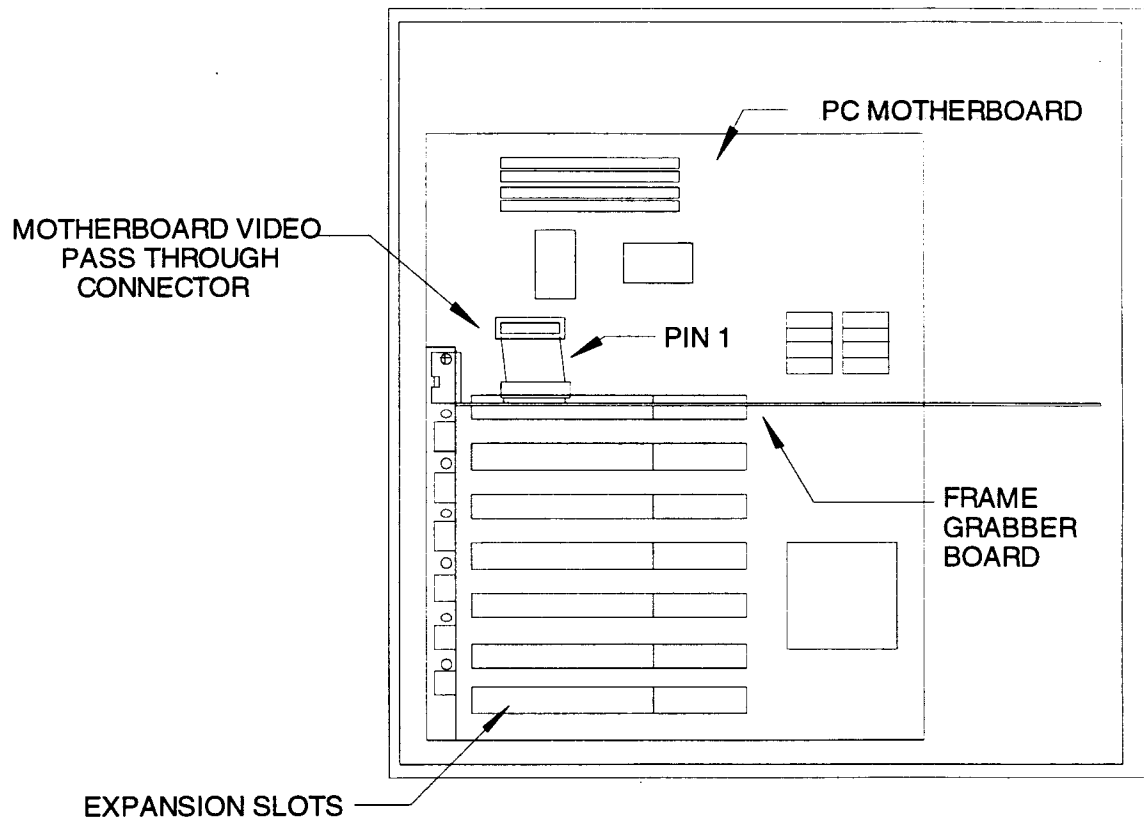

Figure 5. Installing the Frame Grabber Board Into a Computer with Built-In Video
- Step A6:** Connect the other end of the VGA pass-through ribbon cable (noting position of Pin 1) to the computer's built-in video pass-through feature connector. (See Figure 5).